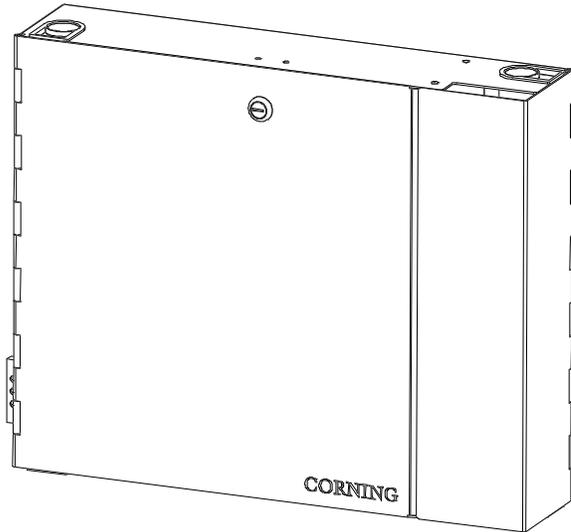

Figure 1
1.1 This instruction describes the recommended procedure for installation of the Wall-Mount Distribution Center (WDC-006) shown in Figure 1.